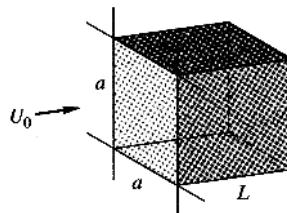

Fig. P7.28
- 7.28** Flow straighteners are arrays of narrow ducts placed in wind tunnels to remove swirl and other in-plane secondary velocities. They can be idealized as square boxes constructed by vertical and horizontal plates, as in Fig. P7.28. The cross section is  $a$  by  $a$ , and the box length is  $L$ . Assuming laminar flat-plate flow and an array of  $N \times N$  boxes, derive a formula for (a) the total drag on the bundle of boxes and (b) the effective pressure drop across the bundle.
**7.29** Let the flow straighteners in Fig. P7.28 form an array of  $20 \times 20$  boxes of size  $a = 4$  cm and  $L = 25$  cm. If the approach velocity is  $U_0 = 12$  m/s and the fluid is sea-level standard air, estimate (a) the total array drag and (b) the pressure drop across the array. Compare with Sec. 6.6.